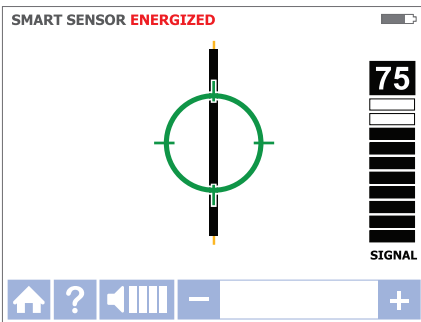

Figure 3.1e
5. Green target symbol indicates that the Receiver is directly over the wire (see Figure 3.1e). If Receiver will not lock on the wire, decrease sensitivity using the "-" on the keypad or set the transmitter to transmit at LOW signal mode.